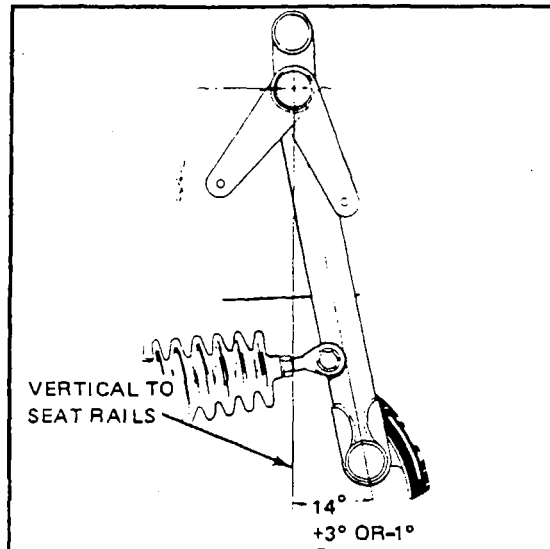

Figure 6A-5. Rudder Pedals at Neutral Angle
l. Place a bubble protractor against a rudder pedal steering tube to check the neutral angle. (Refer to Figure 6A-5.)